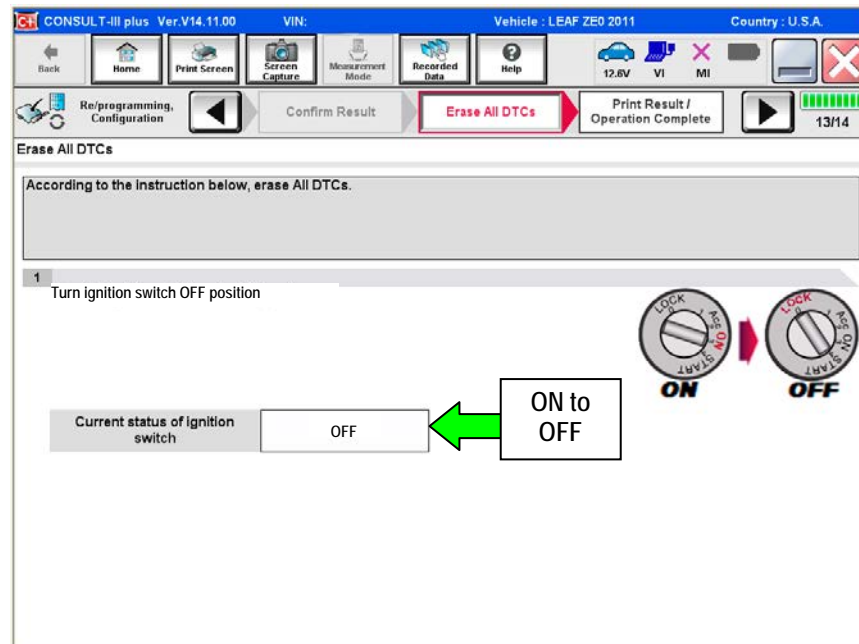

Figure 19
- The screen in Figure 19 will read OFF after pressing the power switch once.
- The screen in Figure 19 will read **ON** after pressing the power switch twice.